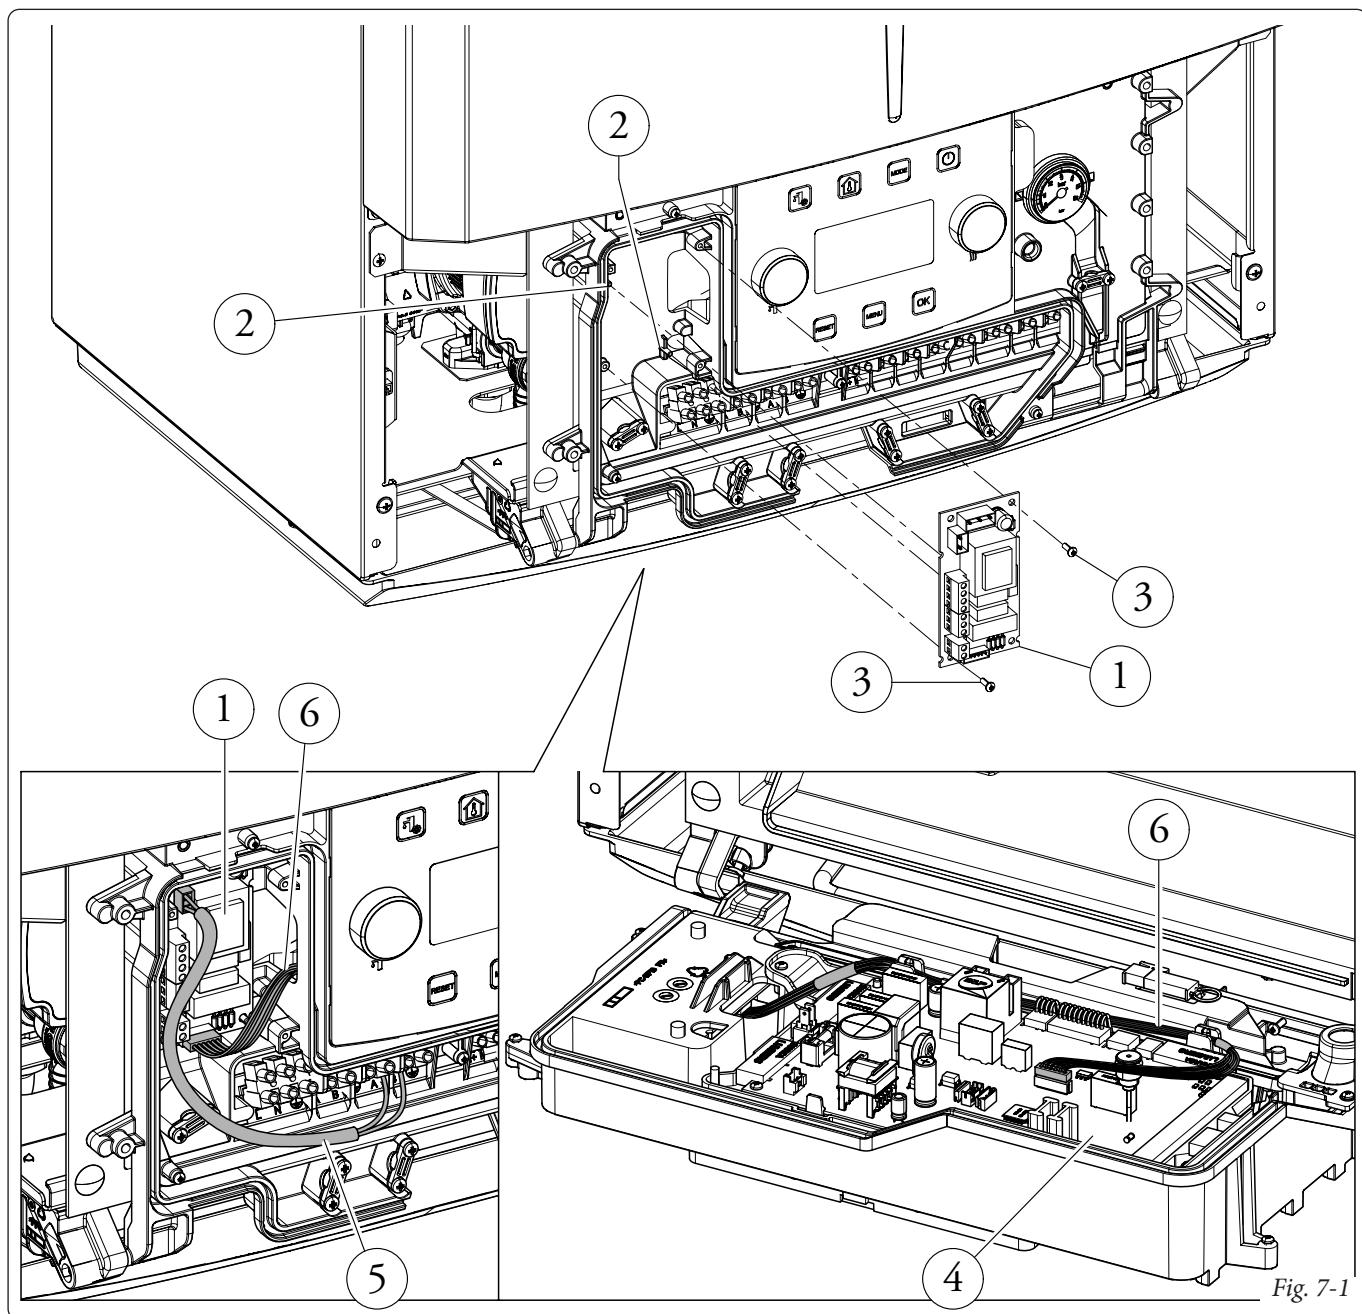

Fig. 7-1
- Open the control panel compartment to install the relay board (1).
- Mount the board making the male pin (2) match the hole in the board (1) and fix it using the cross-head screw (3) (see figure 7-1).
- Make the electric connections between the relay board (1) and boiler electrical connection compartment (for 230V power supply) and between relay board and boiler P.C.B. located in the rear part of the boiler panel (for control signals) using the relative wiring composed of two cables supplied with the kit.
- The connection cable (6) between the relay board (1) and the boiler board (4) must comply with the path (see fig. 7-1).
- The power supply (5) must be connected to terminals A and B (see fig. 7-1).